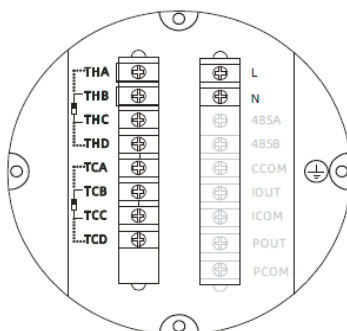

Figure 24
4.5 Input description - Figure 24